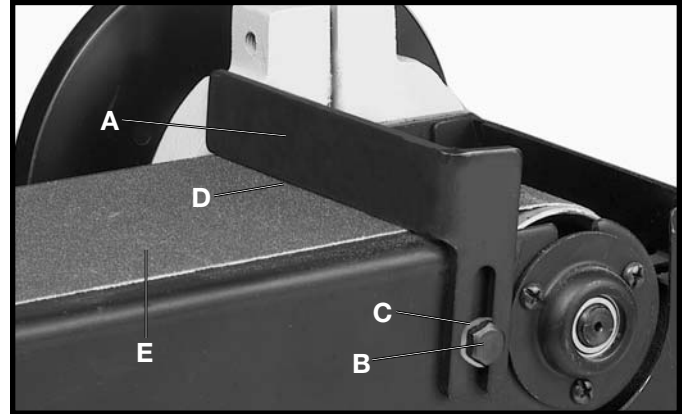

Fig. 14
Assemble backstop (A) Fig. 14, to the sanding arm using the 1/4-20x1/2" hex head screw (B) and 5/16" flat washer (C).